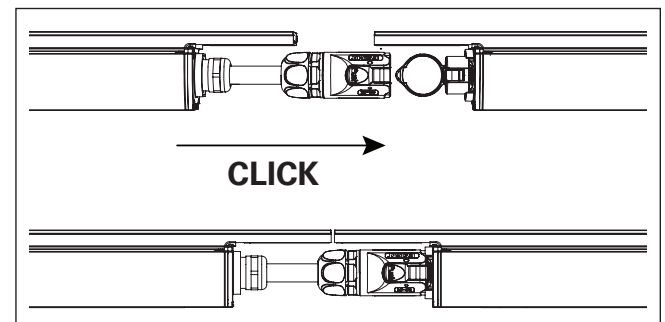

Figure 11
9. Snap male connector from beginning of run power feed into female connector of the first fixture in the run. Self closing cap of female connector must be opened for connection. Connector must "**CLICK**" to ensure complete, proper connection of fixtures along the run. (See Figure 11).